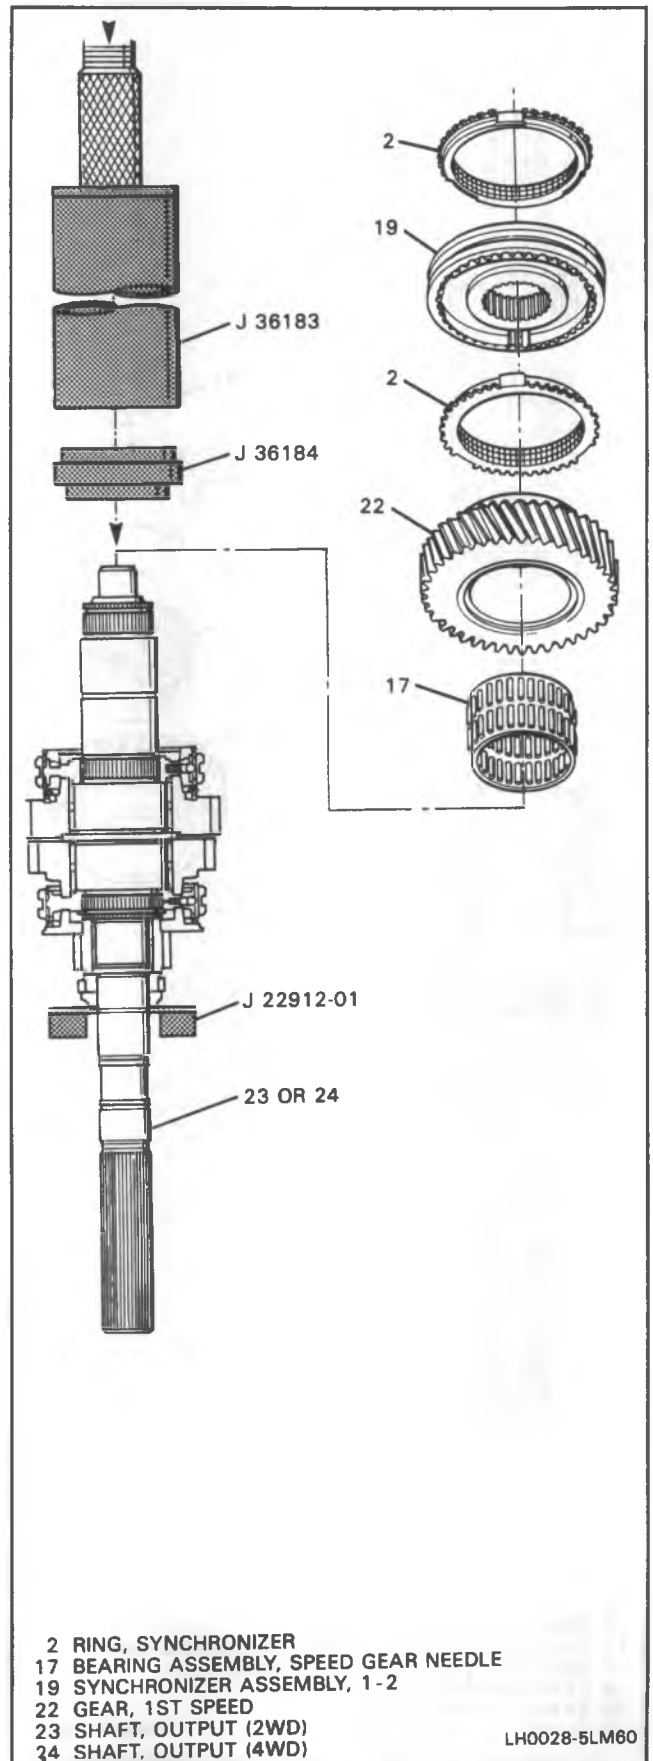
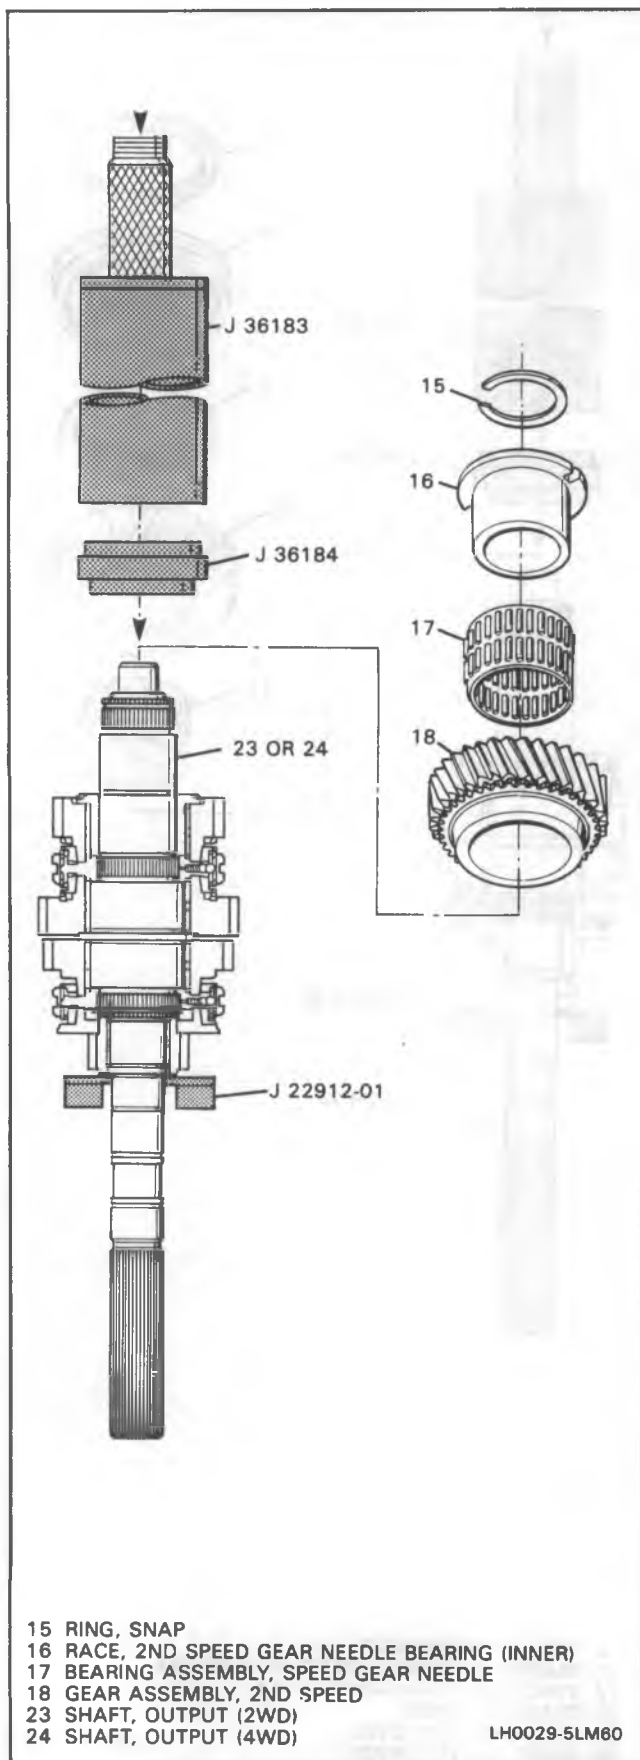
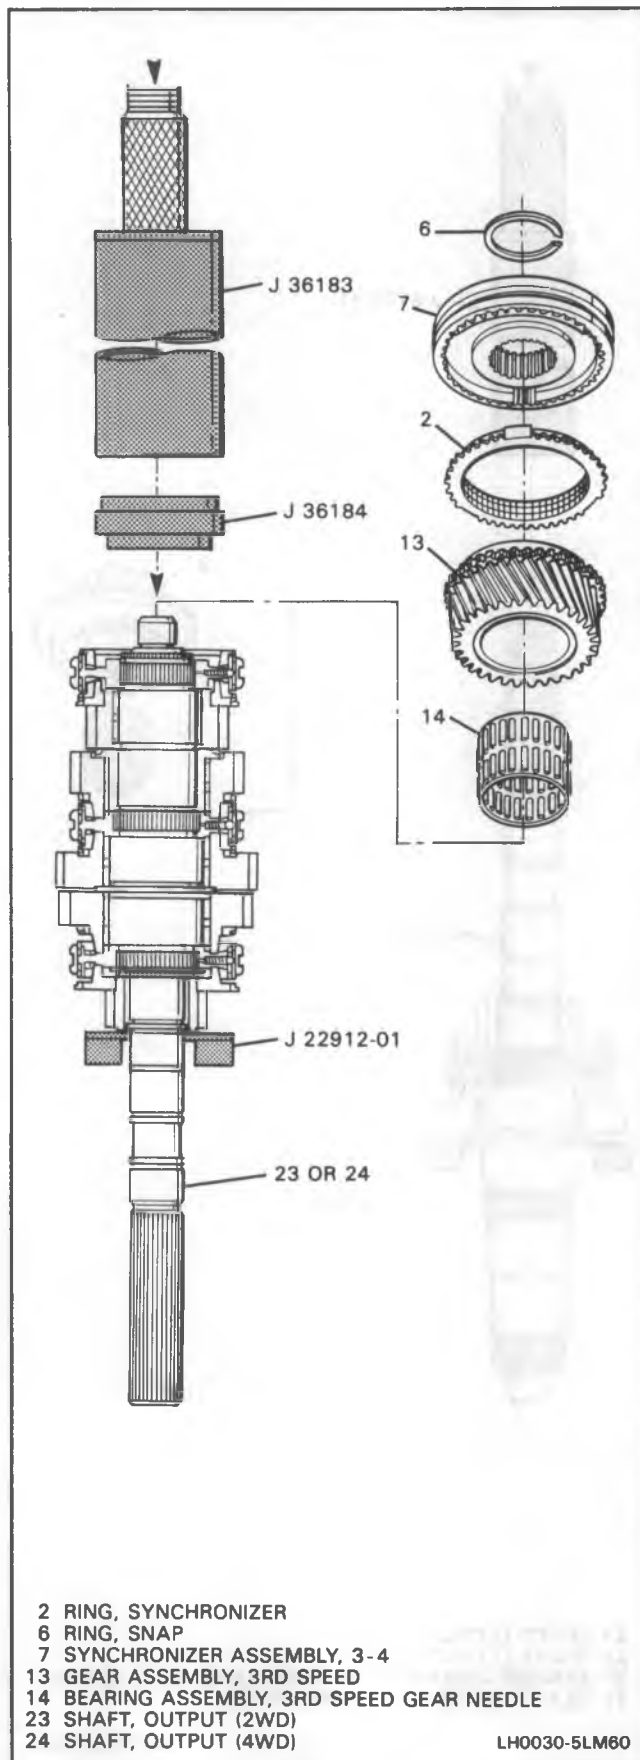

Figure 27 1st Gear and Components Installed
Figure 28 2nd Gear and Components Installed
Figure 29 3rd Gear and Components Installed
6. Bearing assembly (17) and 1st speed gear (22) (Figure 27).
- When pressing the 1st-2nd synchronizer assembly (19):
- Lift and rotate gear (22), to engage synchronizer ring (2).
- 7. 1-2 synchronizer assembly (19) with both synchronizer rings (2) using J 36183, J 36184, J 22912-01 and hydraulic press.
8. Bearing assembly (17) and 2nd speed gear (18) (Figure 28).
9. 2nd gear race (16) HEATED using J 36183, J 36184, J 22912-01 and hydraulic press.
10. NEW snap ring (15)
11. Bearing assembly (14) and 3rd speed gear (13) (Figure 29).
- When pressing the 3rd-4th synchronizer assembly (7):
- Lift and rotate gear (13), to engage synchronizer ring (2).
- 12. 3-4 synchronizer assembly (7) with both synchronizer rings (2) using J 36183, J 36184, J 22912-01 and hydraulic press.
- 13. NEW snap ring (6)